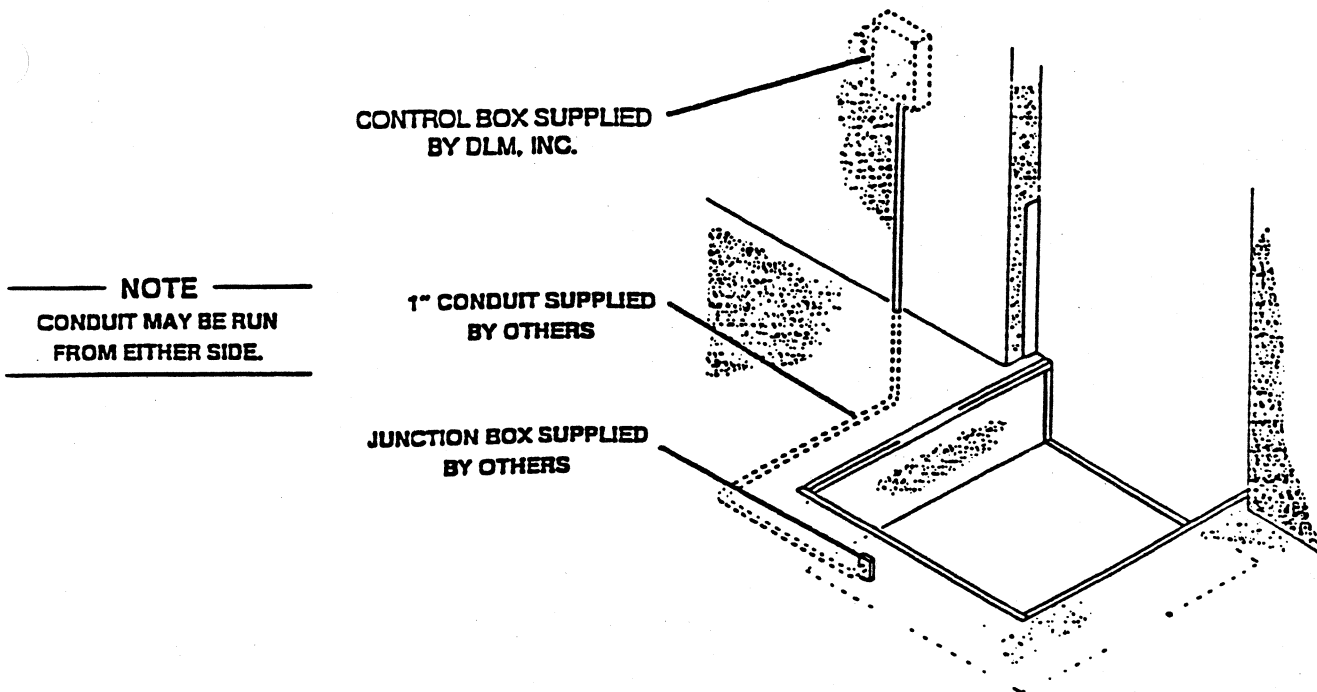

Figure 1
1. Check pit for proper construction. For a hydraulic system there must be a junction box in the pit with conduit running to a near wall where a control box is to be mounted. Refer to Figure 1 for typical set-up. Check to make sure walls are square and plumb. Clean out all debris.